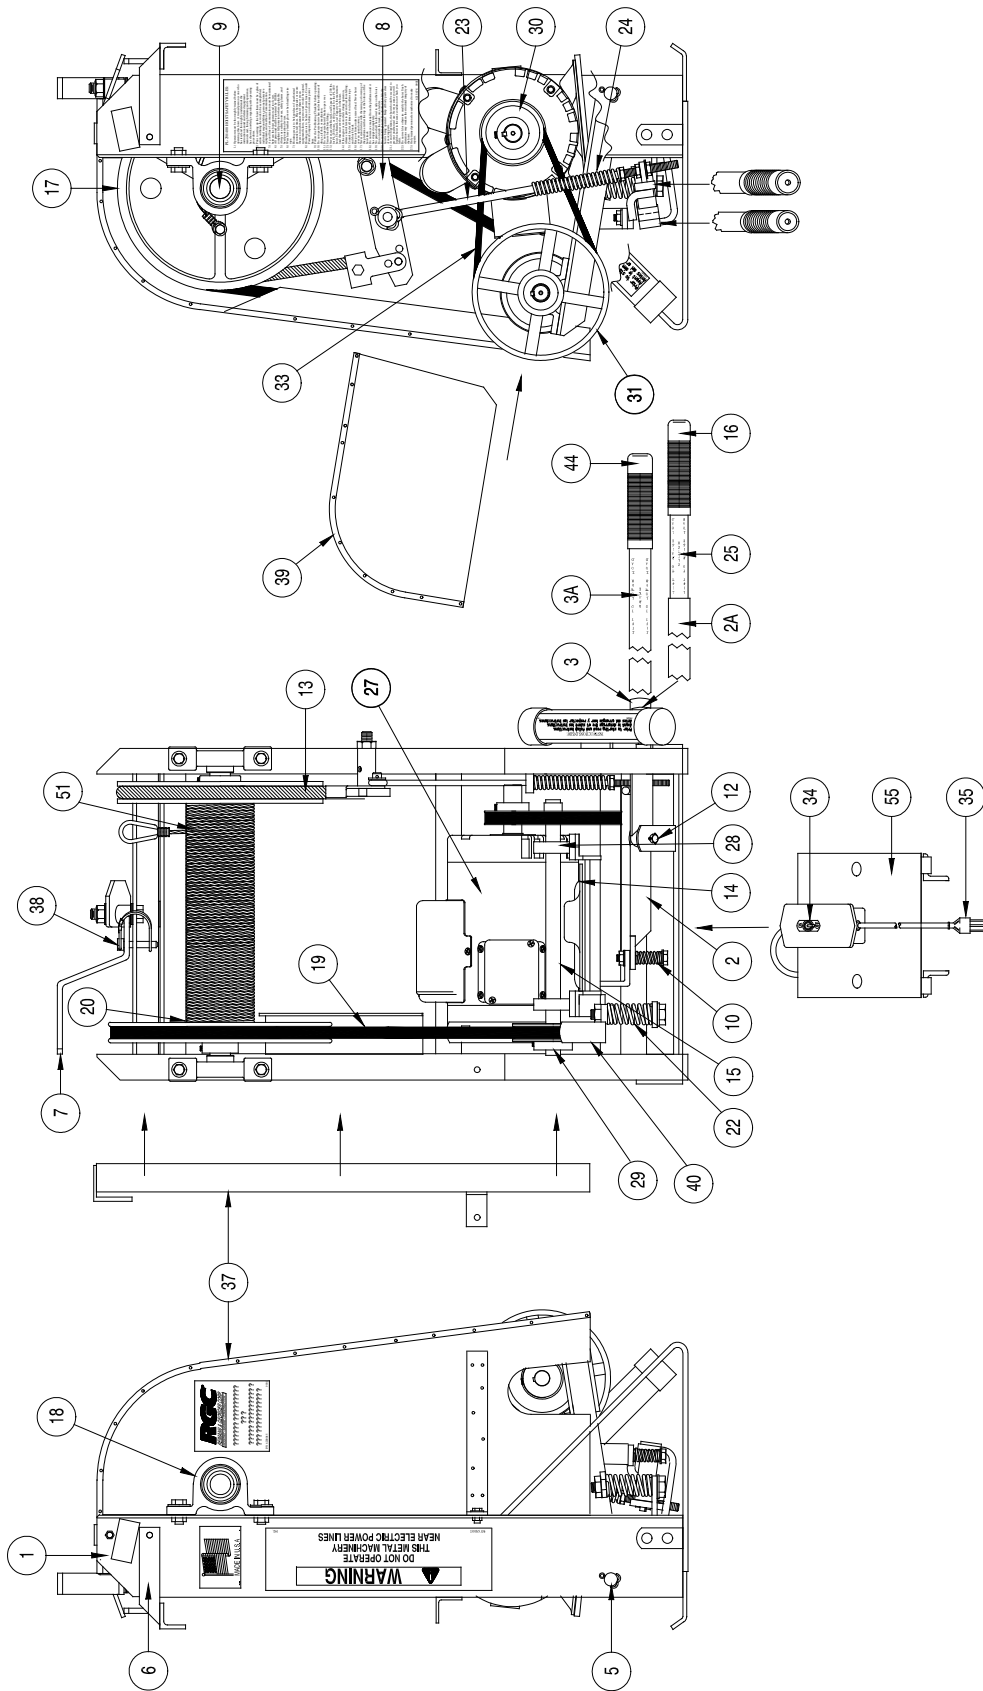

Figure 8-1.
4. When properly adjusted, the brake will release before the #10 clutch spring is entirely compressed. Gap "A" is widened or narrowed by screwing or unscrewing, respectively, nuts "B" and "C". Make this adjustment carefully. If there is no gap "A", the brake will release before the clutch belt is tightened. This will cause a sudden jerking before the clutch belt is tightened, resulting in an overload on the hoist, wire rope, and track. The clutch can be engaged sooner to help avoid this overloading by tightening the top nut on the #10 clutch spring shown in Figure 8-1. The clutch spring is preset at the factory to a compressed height of $1\text{ }3/4$ inches.
The main bearings (shown as #18 in Figure 8-1) are lubricated for life and need no attention. Oil all pivots and linkage joints occasionally. The bearings shown as #28 on this same figure are bronze with graphite inserts. Reservoirs built into the bearings hold a good supply of oil. Inspect frequently and keep filled with light oil as required.
Refer to Figure 8-1.